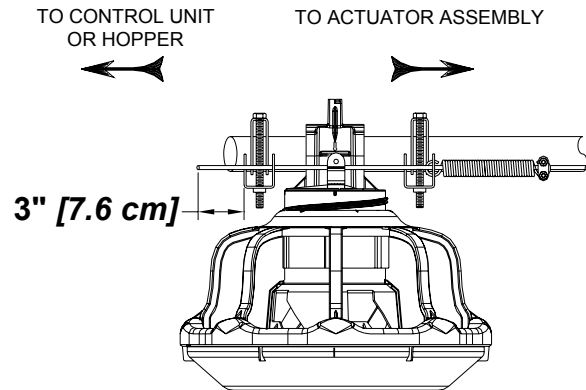

Figure 51. Trim excess actuator wire at control/hopper
5. With the brood in the open position. Go to the control unit or hopper end to trim the extra actuator wire. Leave **3 inches [7.6 cm]** of excess wire past the spring bracket, **see figure 51.**